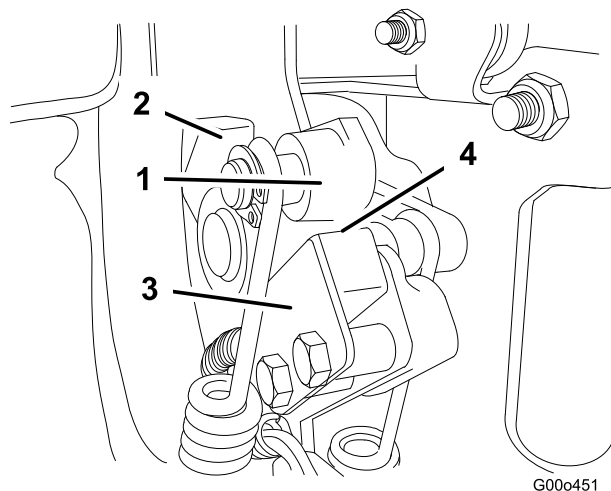

Figure 28
2. Engage traction lever until it contacts neutral stop (Figure 28).
- Loosen interlock switch mounting fasteners (Figure 28).
- Place a .032" thick shim between the traction lever and the interlock switch (Figure 28).